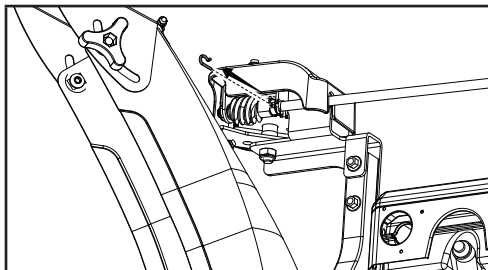

Figure 36
2. Retirez la goupille R (figure 36).